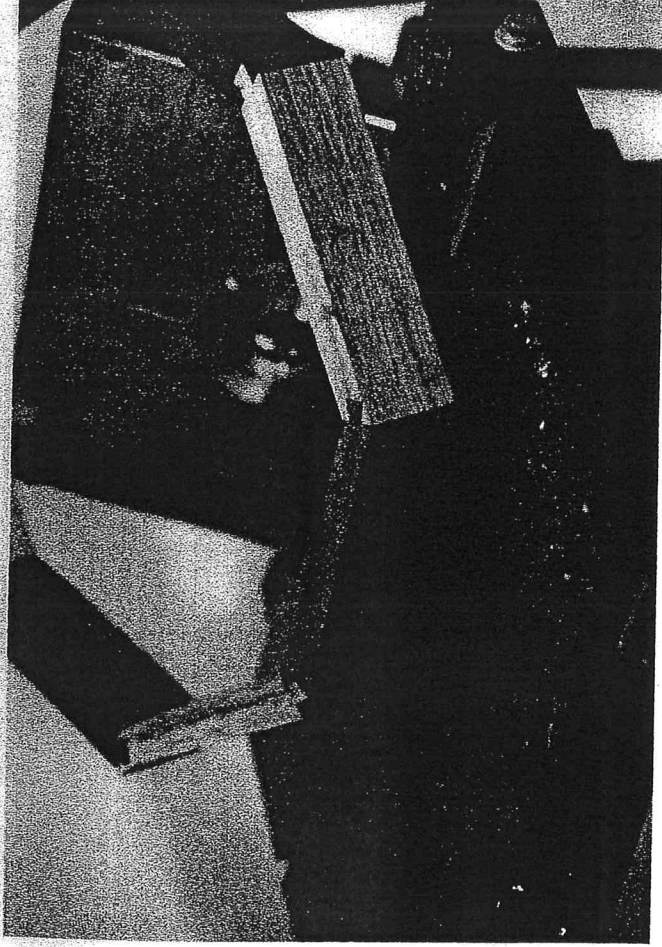

Fig. 37
7. Assemble and check fit of joint. (fig. 37)